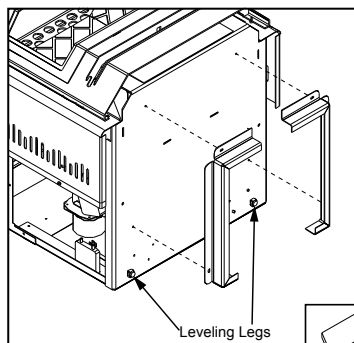

Figure 22: Installing Pedestal.
There are two parts to the GFI55 insert pedestal and they can be found inside the hopper. Place unit on its back. Two (2) hex head screws are used on each side of the pedestal (refer to Figure 22). Using a $\frac{5}{16}$ " wrench or socket, secure the pedestal to the bottom of the unit.